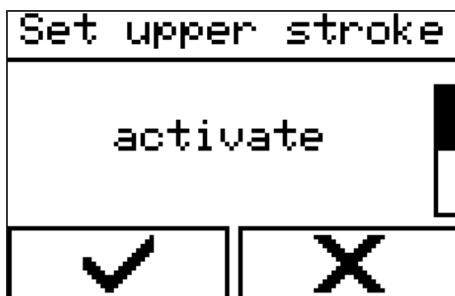

Fig. 97: Activating stroke limitation
2. ➔ Select 'Set upper stroke limit' (Fig. 97).